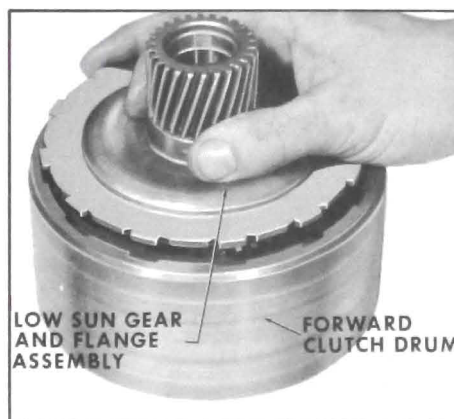

Figure 5-237
11. Install low sun gear and flange assembly. See Figure 5-237.